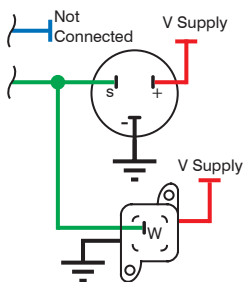

Figure 11
- Refer to the connection in **“Figure 9 - Tacho Input Connections”** and **“Figure 11”**.